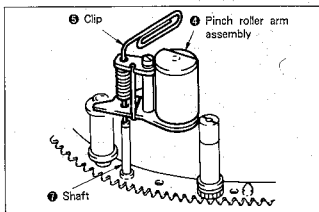

Fig. 7-22.
- 3) Put the end of the clip ⑤ to the threading ring assembly shaft ⑦ and mount the pinch roller arm assembly ④. (See Figs. 7-22, and 7-23.)